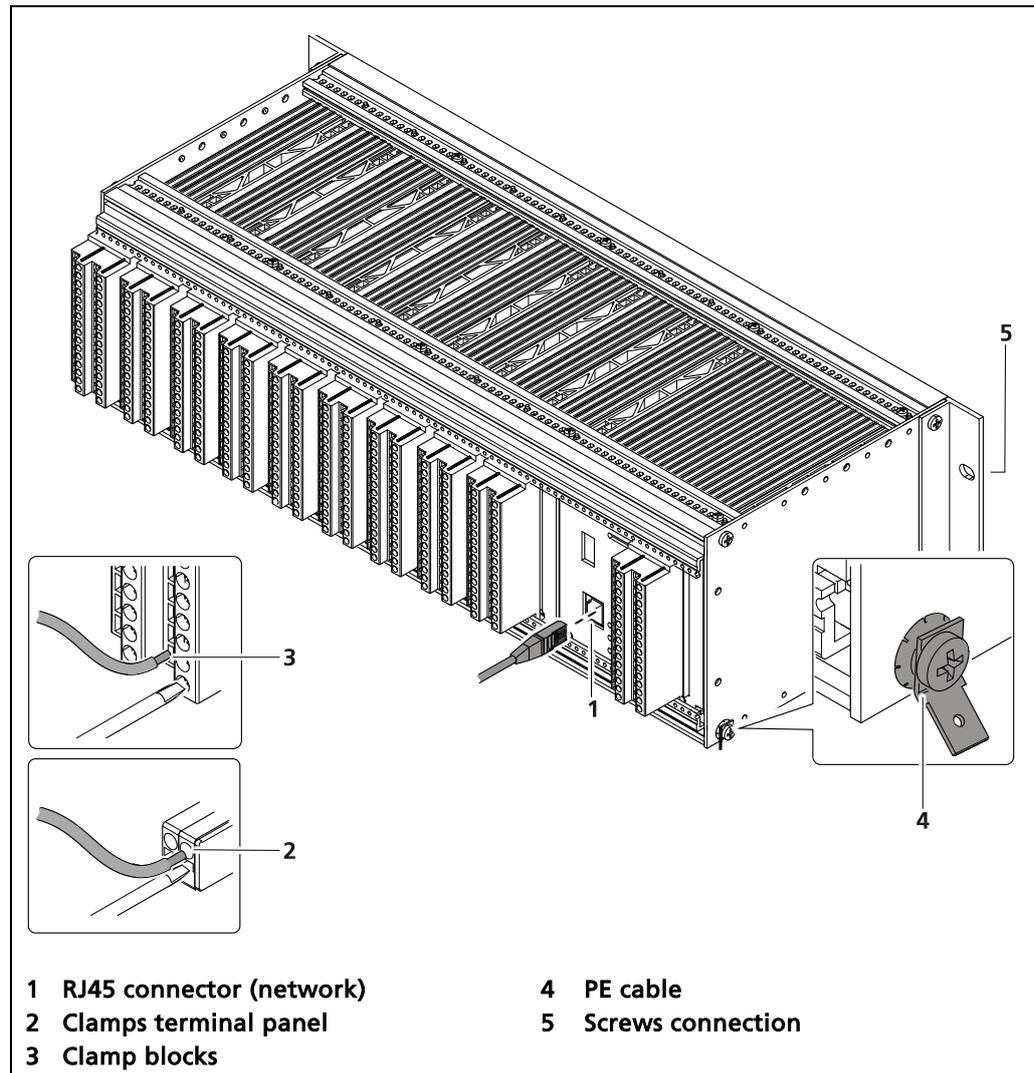

Fig. 125 Decommissioning wall housing
2. Remove the network plug (Fig. 125, item 1).
3. Remove all lines from the terminal panel (Fig. 125, item 2) or the clamp blocks (Fig. 125, item 3).
4. Remove the PE cable (Fig. 125, item 4).